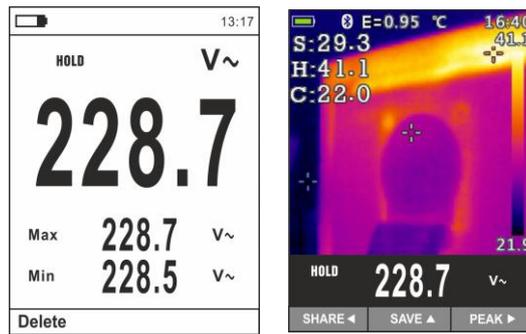

Fig. 19 Deleting and sharing recalled images
28. Press key **HOLD/REL** on the recalled image. The screens in Fig. 19 – left side appear on the display
30. With image fixed at display use the arrow key ◀ and select the option “Share” (only available for IR image screenshots on HT9025T) (see Fig.19 – right side) to share the image on mobile devices through the APP HTMercury and Bluetooth connection